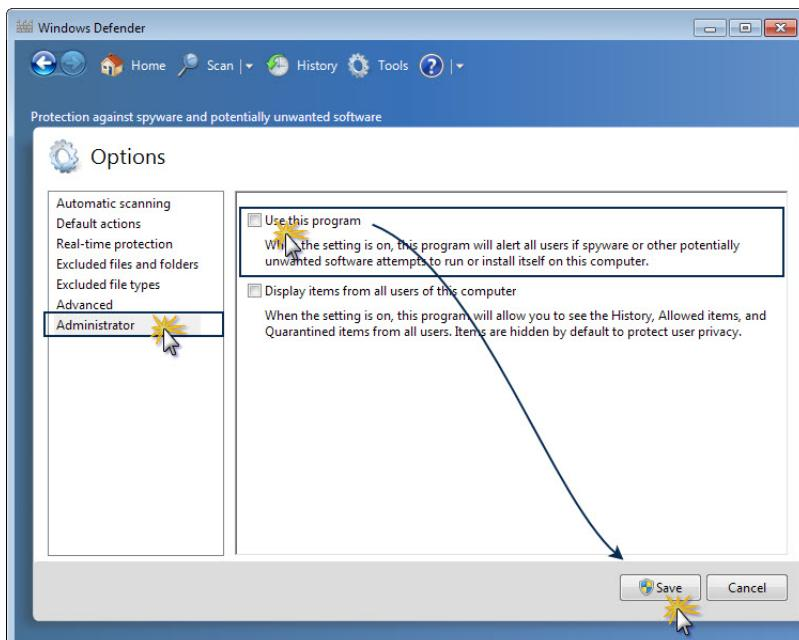

Figure 2-11. Deactivating Windows Defender (D)
- 4 To deactivate **Windows Defender** across the entire system, choose the **Administrator** option. Then deselect the **Use this program** box (Figure 2-11).